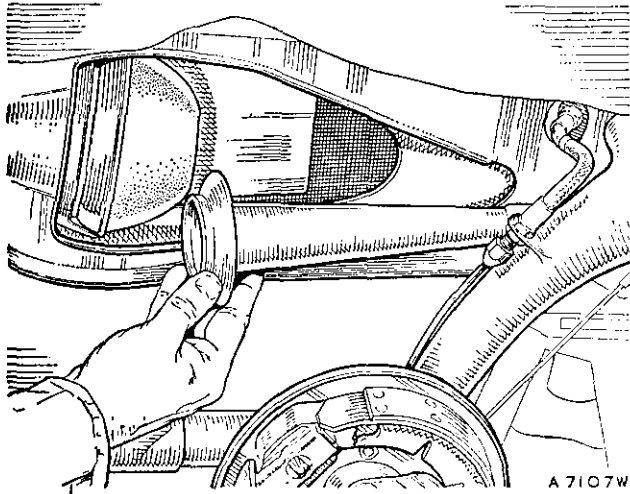

Fig. H.2
- (1) Release the rear damper(s) as in Section L.1.
- (2) Raise the car and support it under the sub-frame side-member.
- (3) Remove the road wheel.
- (4) Disconnect the brake hose from the bracket on the radius arm.
- (5) Prise out the strut assembly (Fig. H.2). The nylon cup may remain in the boss on the radius arm and, unless damaged, it can be removed with the fingers.
- (6) Disconnect the hand brake cable from the lever on the backplate, prise the guide tube from the clip on the arm and pull the tube away from the arm.